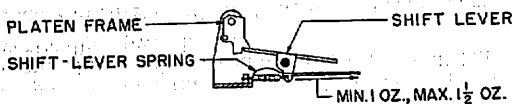

Fig. 34
2.53 **Shift-Lever Spring:** It should require Min. 1 oz., Max. 1-1/2 oz. to just start the lever moving with the platen frame held clear of the lever. Fig. 34